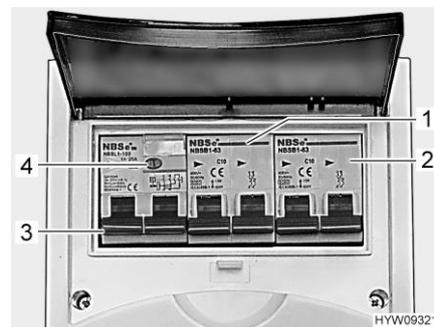

Fig. 115 Safety cut-out and FI-switch (230 V fuse box)
A fault current protection switch (FI-switch) (Fig. 115,3) in the fuse box protects the complete vehicle from fault current (30 mA).
The downstream safety cut-out (10 A) (Fig. 115,1) secures the 230 V sockets, the power supply unit, the auxiliary power supply unit and the refrigerator.
For vehicles with special equipment, e.g. air conditioning unit, an additional safety cut-out (16 A) (Fig. 115,2) secures the device.
- When the vehicle is connected to the 230 V power supply, press the test button (Fig. 115,4). The fault current protection switch (FI-switch) must be activated.